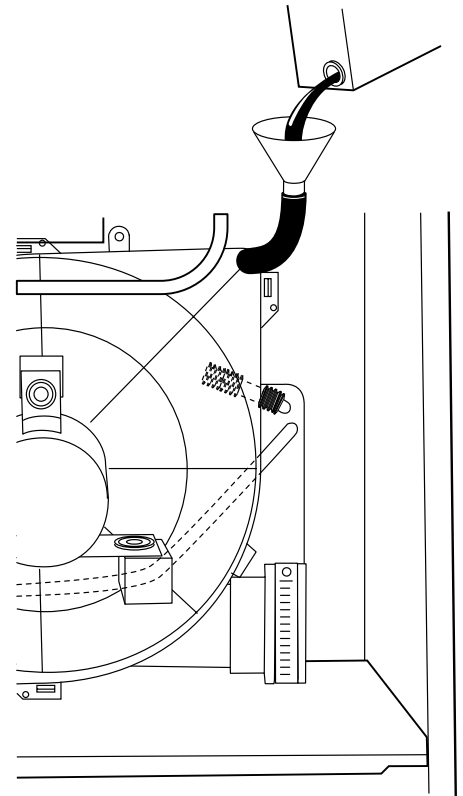

Fig. 15—Funnel in Drain and Antifreeze Running Through Trap
5. Insert funnel in tube and pour up to one quart of antifreeze, propylene glycol (RV, swimming pool antifreeze, or equivalent) into funnel until it is visible at point where condensate enters open drain. (See Fig. 15.)